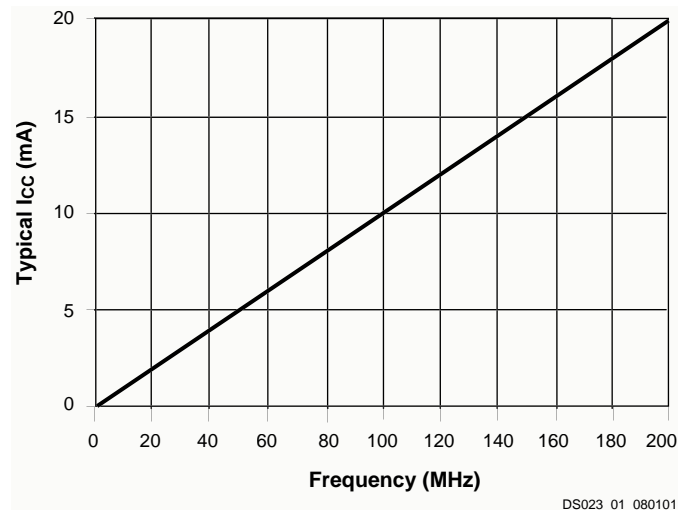

Figure 1:  $I_{CC}$  vs. Frequency at  $V_{CC} = 3.3V, 25^{\circ}C$
Xilinx offers a TotalCMOS CPLD, both in process technology and design technique. Xilinx employs a cascade of CMOS gates to implement its sum of products instead of the traditional sense amp approach. This CMOS gate implementation allows Xilinx to offer CPLDs that are both high performance and low power, breaking the paradigm that to have low power, you must have low performance. Refer to Figure 1 and Table 1 showing the  $I_{CC}$  vs. Frequency of our XCR3032XL TotalCMOS CPLD (data taken with two resettable up/down, 16-bit counters at 3.3V, 25°C).
5. See Table 1, Figure 1 for typical values.